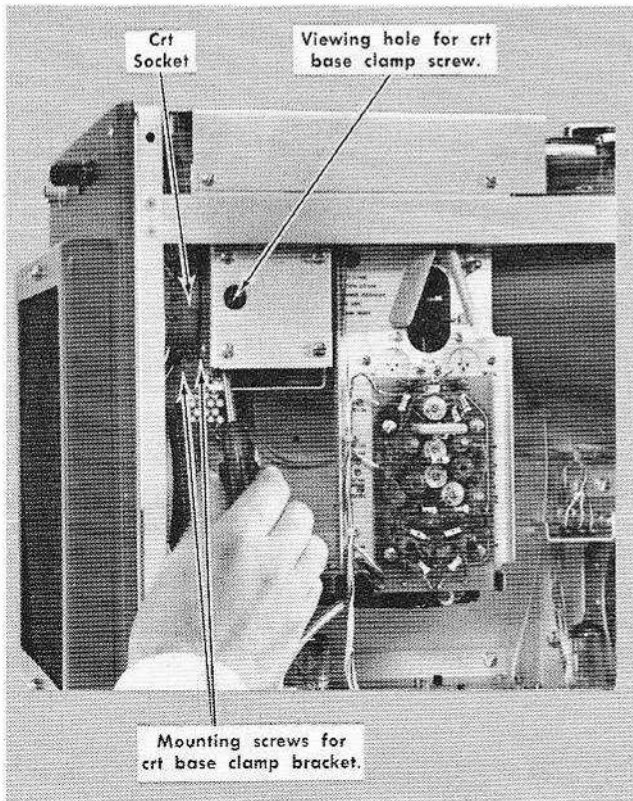

Fig. 4-4. Loosening the crt base clamp.
4. Using a Phillips screwdriver, loosen crt base clamp (see Fig. 4-4) so that the crt base is loose in the base clamp.
If the crt face is not aligned with the front of the oscilloscope, use a $\frac{7}{64}$ " hexagonal wrench to loosen the two socket-head mounting screws that fasten the base clamp to the mounting bracket (see Fig. 4-4). Move the base clamp and crt radially to align the face of the crt with the front panel of the instrument.